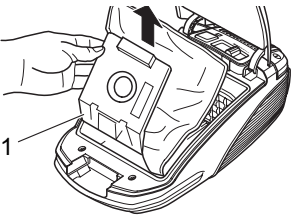

Fig. 18
2. Pull the dust bag holder (Fig. 18/1) up and out.
7. Push the dust bag holder (Fig. 18/1) into the rail provided for this purpose.